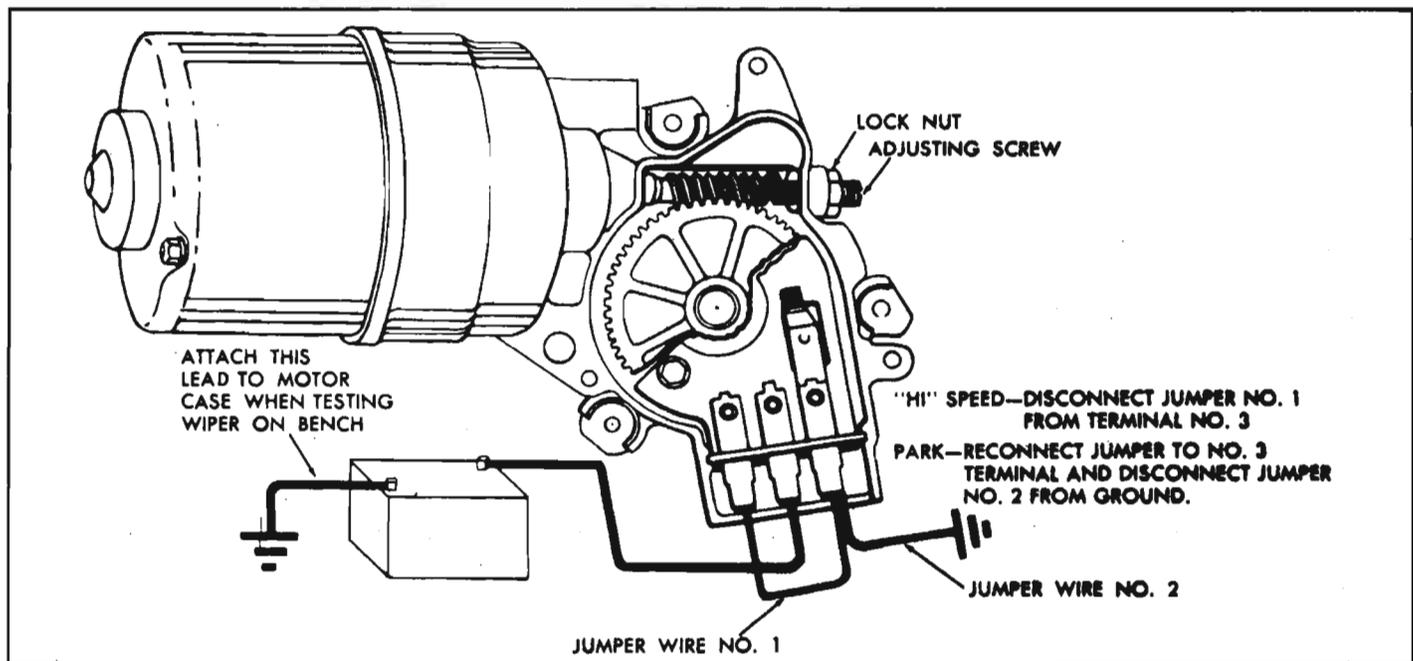

Fig. 8-153—Trouble Shooting Procedures
2. Operate wiper to park position (fig. 8-153).
Armature End Play—Loosen end play adjusting screw lock-nut, Figure 8-153, and tighten the adjusting screw until finger tight. Then back off $\frac{1}{4}$ turn and tighten lock-nut.
1. With ignition switch "On" check power source (12 V.) to center or #2 terminal of wiper terminal board (fig. 8-153).
2. To determine if dash switch or car wiring is the source of trouble try to operate the wiper as shown in Figure 8-153.
2. By-pass car wiring and dash switch and operate as shown in Figure 8-153.
1. By-pass car wiring and dash switch and connect up wiper as shown in Figure 8-153. This should operate in "Lo" speed (approximately 35-45 wipes per minute.
1. By-pass car wiring and dash switch and connect up wiper as shown in Figure 8-153. This should operate wiper in "Lo" speed. Next, disconnect jumper wire #1. This should operate wiper in "Hi."
"Lo" Speed—Using an ammeter in the feed wire circuit from battery connect up wiper as shown in Figure 8-153.